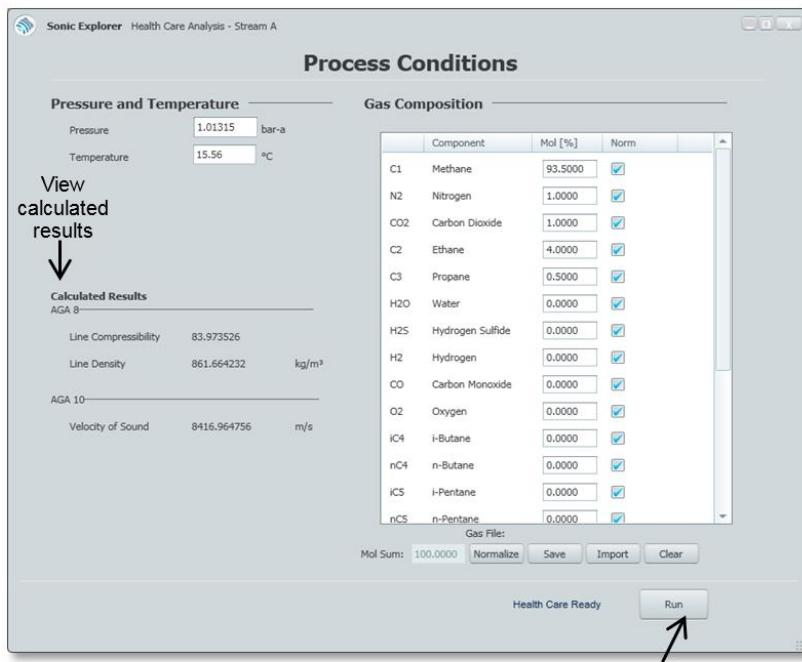

Figure 12-1 Process Conditions
- ✓ SonicExplorer will open a new window showing the **Process Conditions**. Please see Figure 12-1.
- ✓ Once all process conditions are filled in, three gas parameters are calculated: **Line Compressibility**, **Line Density** and **Velocity of Sound**. These are shown in the left hand side of Figure 12-1, under the heading **Calculated Results**.
As seen in Figure 12-1 There are four actions available related to the gas composition: **Normalize**, **Save**, **Import**, and **Clear**. These functions allow you to adjust which gas file you would like to use to run the analysis.
- ▶ Press **Run** (as seen in Figure 12-1).